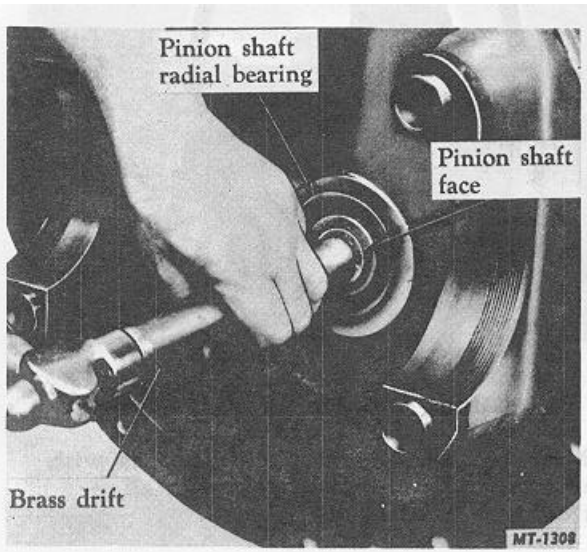

Fig. 4 Loosening Pinion and Cage from Carrier
13. Obtain a brass drift and hammer and strike against rear face of pinion shaft (Fig. 4) to start pinion and cage out of carrier.